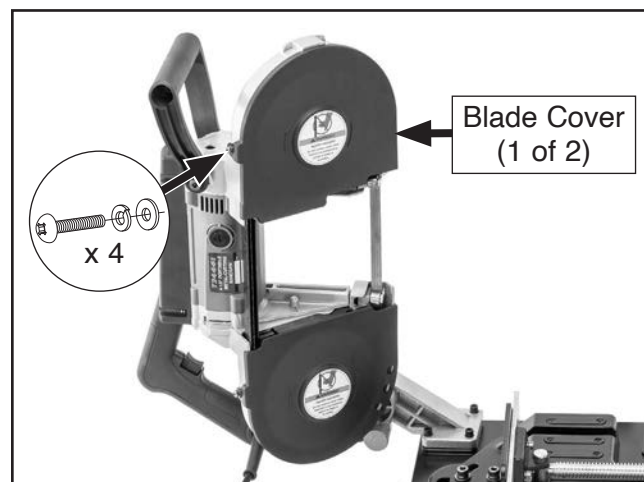

Figure 20. Location of blade covers and screws.
5. Remove (4) Phillips head screws, lock washers, and flat washers shown in **Figure 20** to remove blade covers.